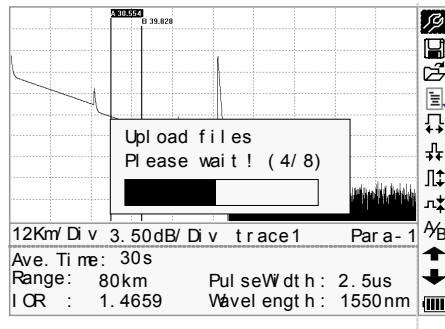

Figure 42.- Upload Saved Traces.
- Power on **PROLITE-50/51/52**, and upload data with the software. The whole process is as shown in figure 42.